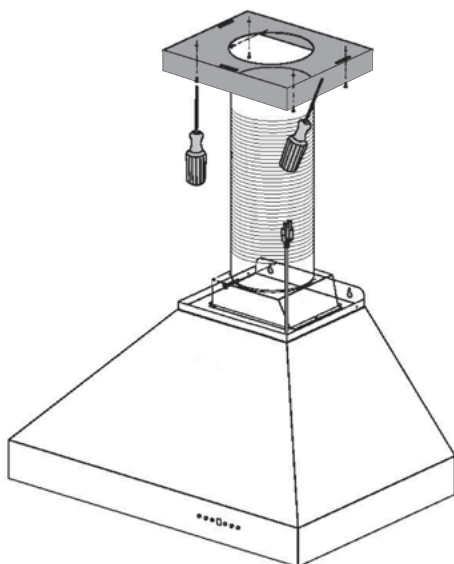

Figure 7
8. Secure the crown molding bracket to the ceiling directly above the range hood by using the hardware provided with the crown molding. *Figure 7*